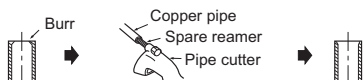

Fig. 3
- When connecting the drain hose to the hard vinyl chloride pipe, be sure to insert it securely into the pipe. (Fig. 3)
- Put the drain cap into the section to which the drain hose is to be attached at the rear of the indoor unit. (Fig. 3)
- Completely remove all burrs from the cut cross section of pipe. (Fig. 3)